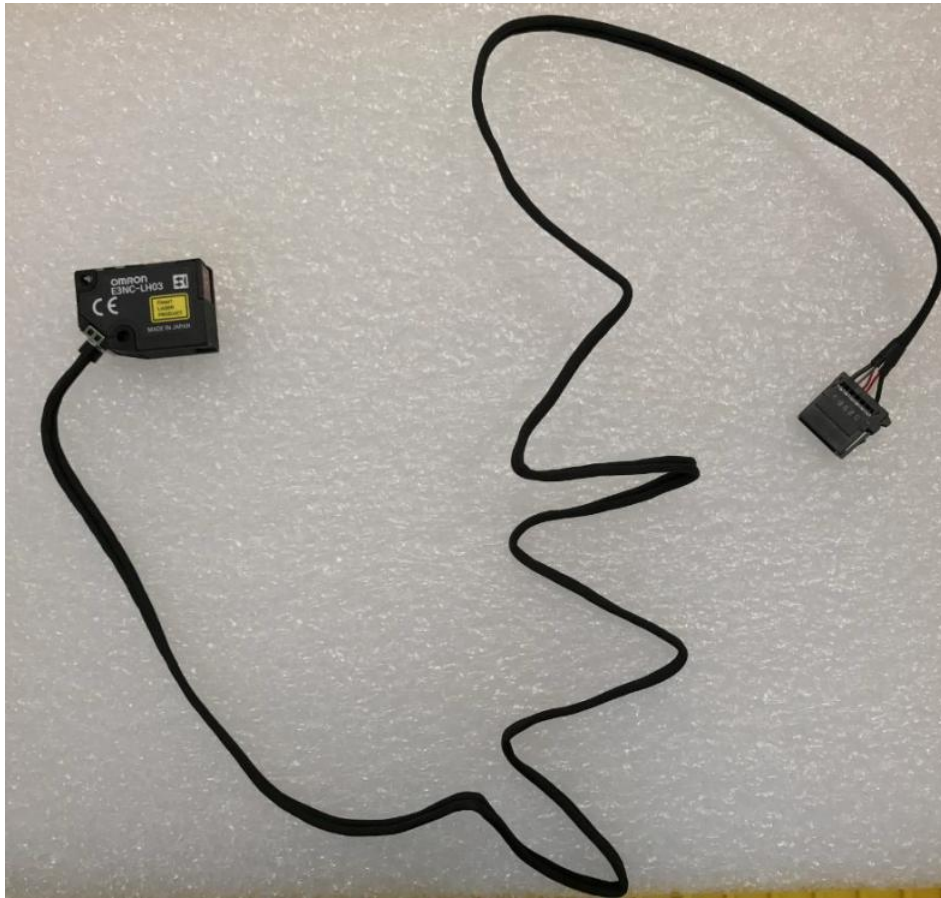

Figure 9
12. Prepare 1 x 2284-0011 (Sensor, Laser, 2M) as below Figure 9